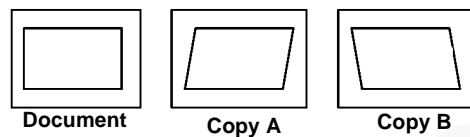

Figure 2 Checking the Copies
2. (Figure 2): Make several copies of the Test Pattern.